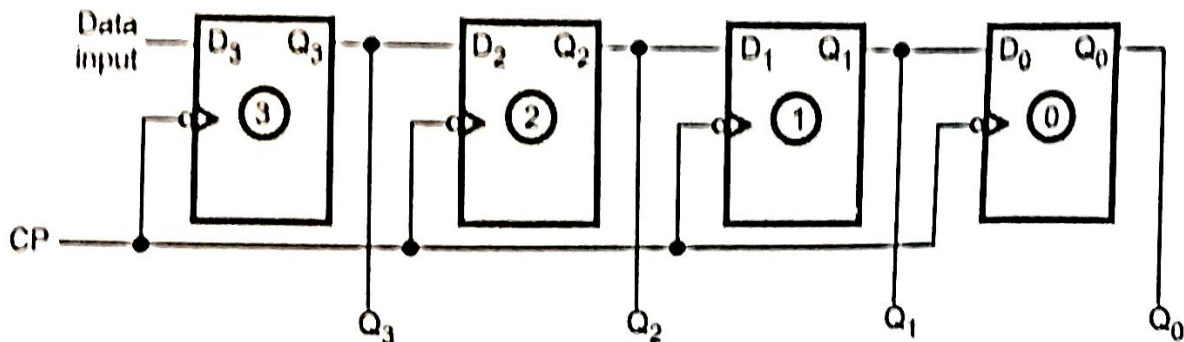

Figure 3.30: A Serial In Parallel Out (SIPO) shift register
- Once the data are stored, each bit appears on its respective output line and all bits are available simultaneously as shown in figure 3.30.